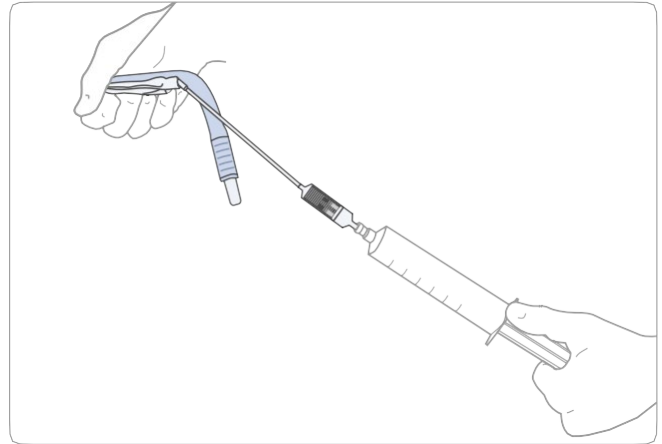

Figure 7. LMA® Gastro™ Cuff Pilot™ deflation
1. After firmly connecting a syringe of at least 50 ml to the inflation port, hold the syringe and this device exactly as shown in **Figure 7**. Move the connected syringe away from the device until the inflation line is slightly stretched as shown. With a gloved hand, compress the distal end of the device between the index finger and thumb while withdrawing air until a vacuum has been obtained.
2. While deflating, hold the device so that the distal end is curled slightly anteriorly as shown in **Figure 7**.